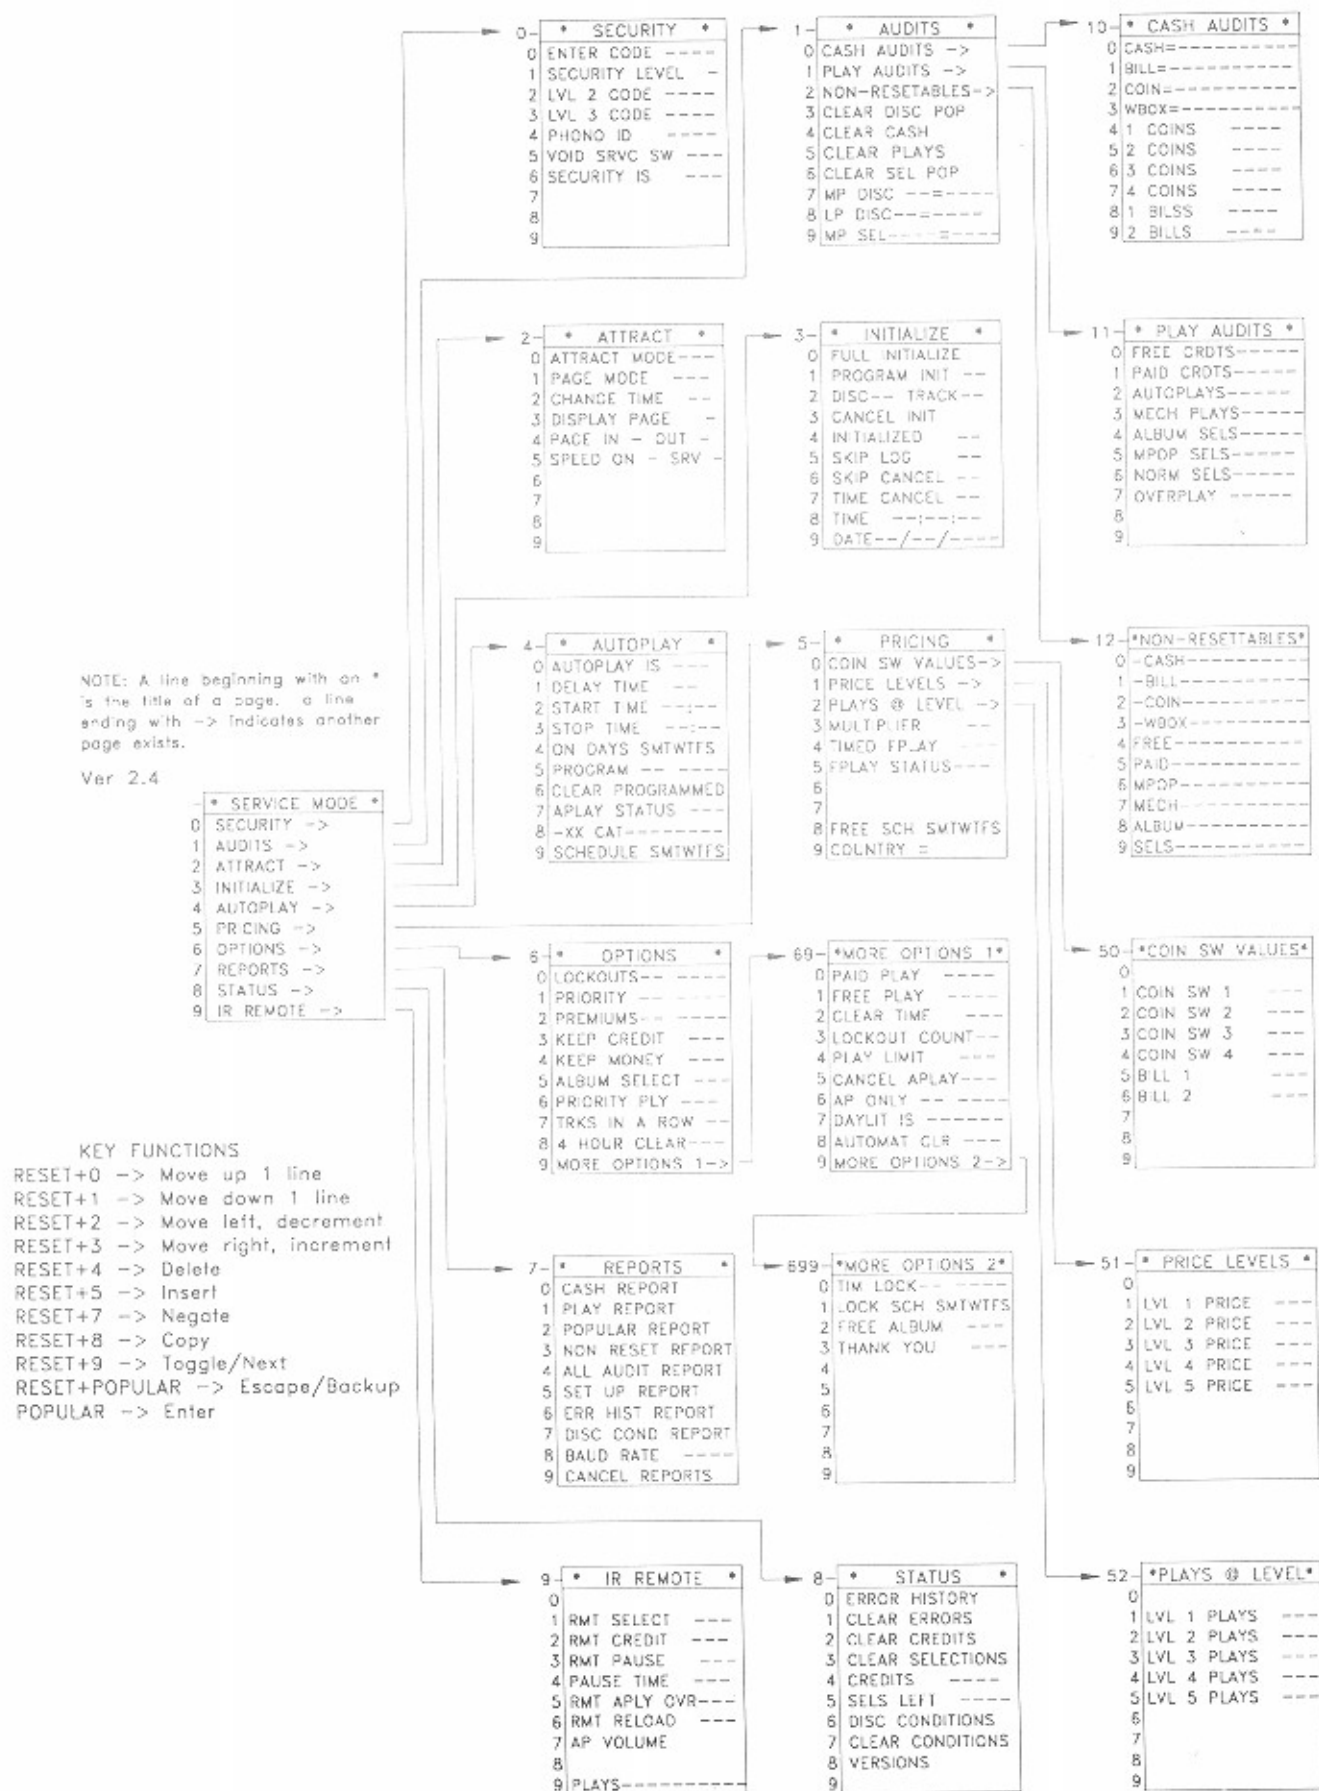

Figure 2-11. Service Mode Map
To view a menu option, hold down the RESET button and press either the 0 digit or the 1 digit. The 1 digit will move you down one item and the 0 will move you up one item. This method of viewing menu options will allow you to view your options in any menu (or submenu). Refer to *figure 2-11, the Service Mode Map*, and note that an arrow following the command indicates that a submenu exists. Press the POPULAR key to enter a submenu. Hold the RESET key and press the POPULAR key to exit a submenu.
CD-51A Commands are formed by combining the numbers that appear on the left side of the menus that appear in *figure 2-11*. To construct and use CD-51A commands, you need to refer to *figure 2-11* or *table 2-4*.
As An Example: You want to view the number of cycles that the CD mechanism has made. Using *figure 2-11*, you determine that you need to select AUDITS (1), on the main menu; NON-RESETTABLES (2), on the AUDIT menu; and MECH (7), on the NON-RESETTABLES menu. Use the digits to form a numeric command, which is 127. Type 127 and The number of mechanism cycles is displayed.
The SERVICE MODE menu (referred to as the "MAIN menu") is the starting point for all service, pricing, and programming functions. This menu contains the general title for each submenu. Some of the submenus contain commands only. Other submenus contain both commands and further submenu names. Refer to *figure 2-11*, the *CD-51A Service Mode Map*, for an illustration of the following menu descriptions: